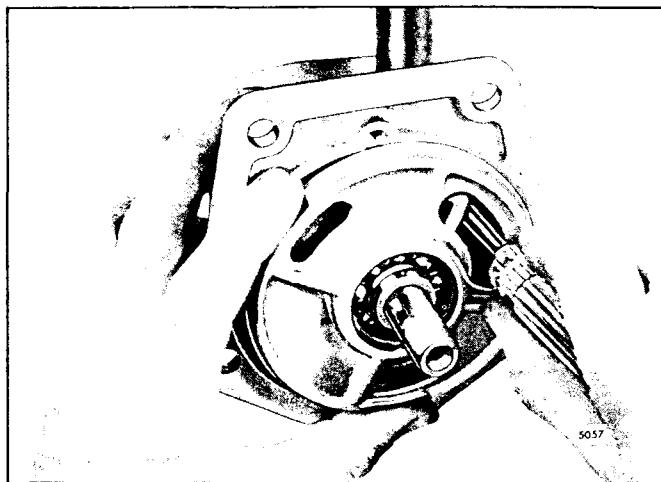

Fig. 2 - Removing or Installing Operating Shaft Fork
3. Turn the bearing retainer until the large opening is centered over the fork on the governor operating shaft (Fig. 2).